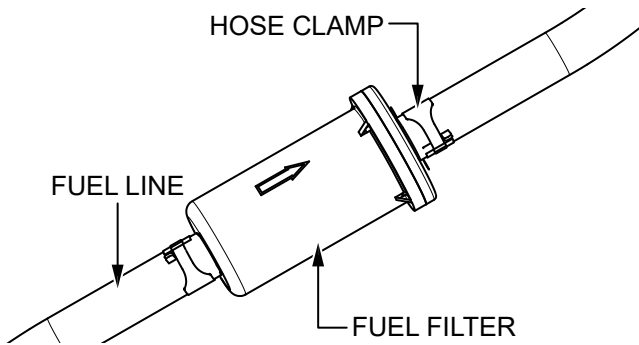

Figure 36. Fuel Filter Replacement
1. Remove the **hose clamps** (Figure 36) securing the **fuel lines** to the **fuel filter**.
2. Twist and pull the fuel lines (Figure 36) off of the fuel filter.